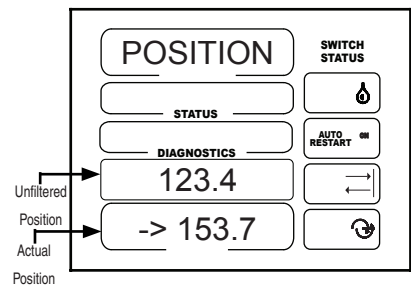

Figure 37-1
1. View the Position screen in Setup Group 4. See figure 37-1.